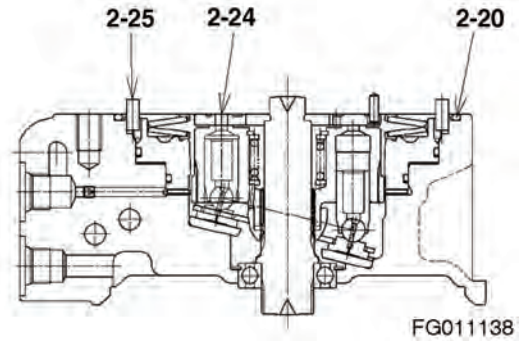

Figure 23
6. Remove valve plate (2-24, Figure 23), pin (2-25, Figure 23) and O-ring (2-20, Figure 23).
NOTE: The valve seat (2-24, Figure 23) may remain on cover side.